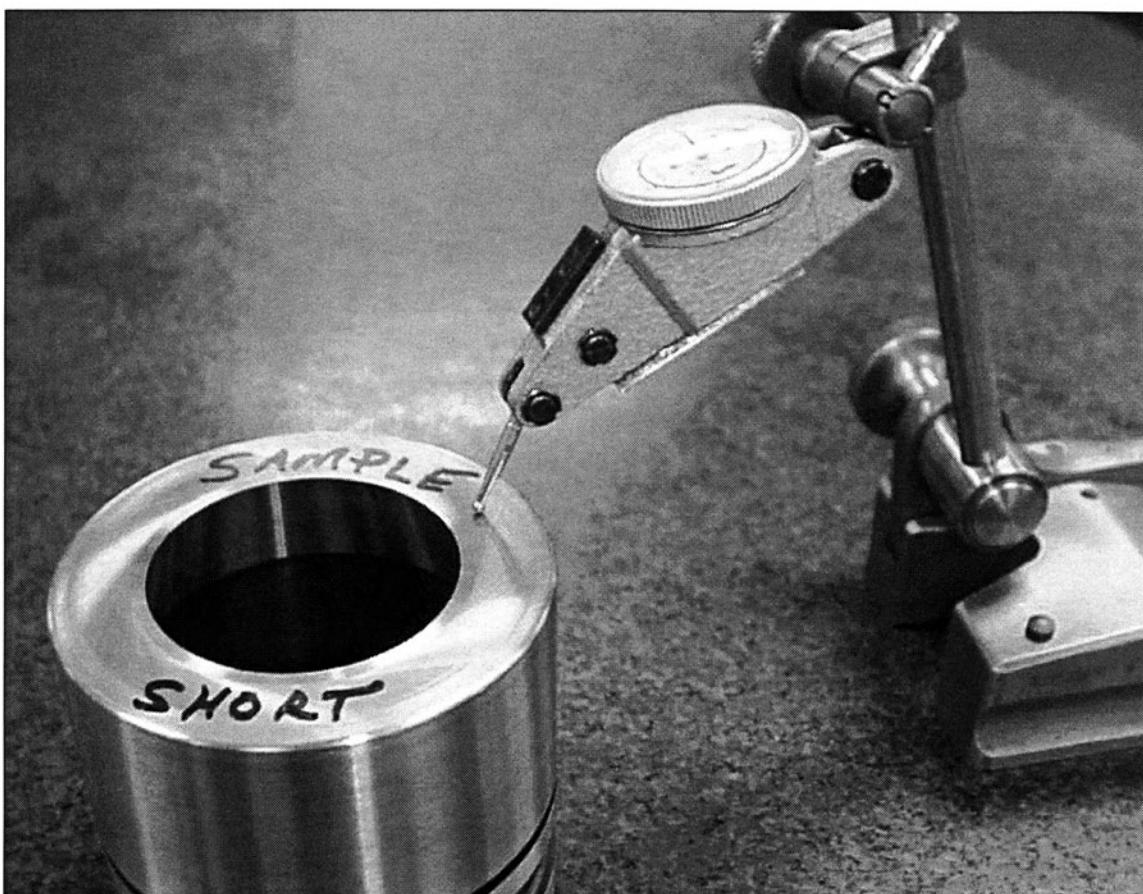

FIGURE 2-7 “Cosine error” is induced into indicator readings if the tip is set at steep angles relative to the surface being checked.
39. Avoid cosine error. (See Fig. 2-7)